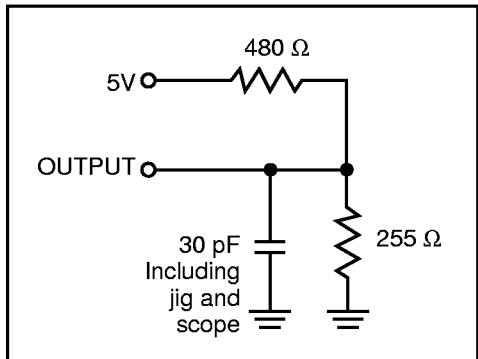

Figure 1
- Test conditions assume signal transition times of 5 ns or less, timing reference levels of 1.5V, input pulse levels of 0 to 3.0V and output loading specified in Figure 1.
Output Load	See Figures 1 and 2
- Test conditions assume signal transition times of 3 ns or less, timing reference levels of 1.5V, input pulse levels of 0 to 3.0V and output loading specified in Figure 1.